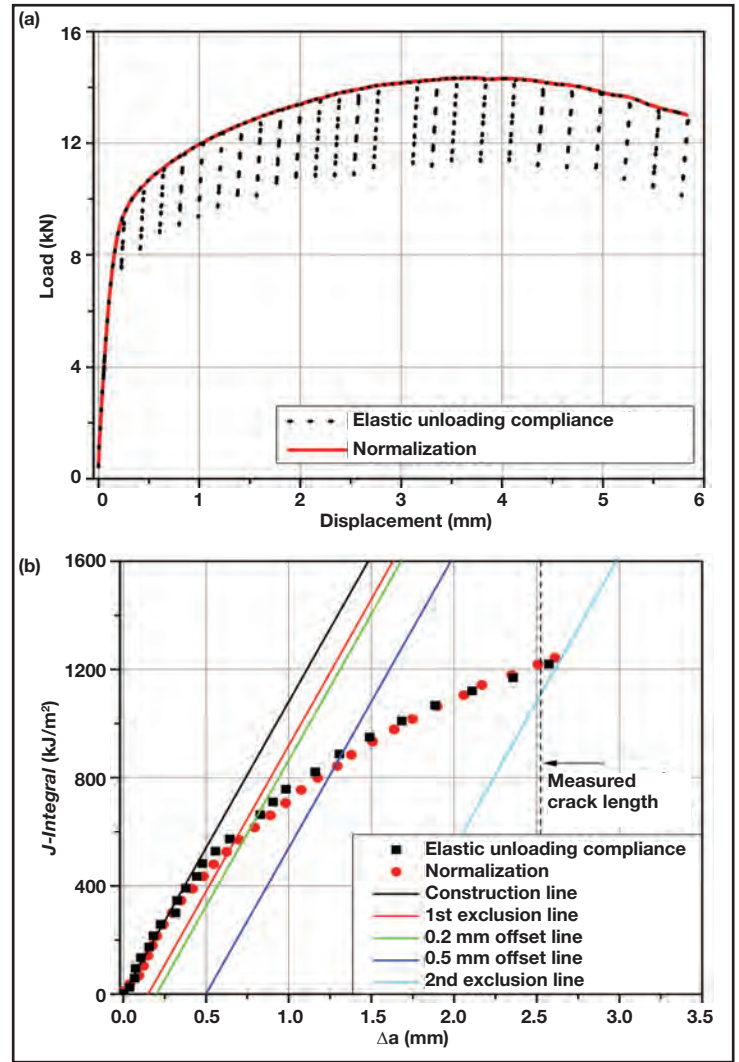
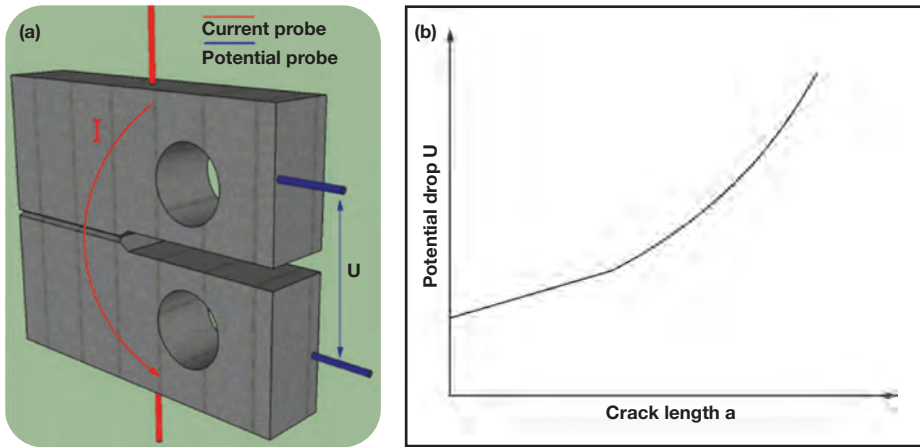

Fig. 6 — (a) EUC vs. normalization load-displacement record for the J-R curve test; (b) comparison of J-R curves derived by EUC and normalization.
Fig. 7 — Schematic for (a) direct current potential drop measurement and (b) crack-growth-induced increase in potential drop.
The *normalization* technique was initially developed by Herrera and Landes et al.^[2,3] and later studied by Joyce and Lee^[4,5]. In some cases, this method can be applied to determine a J-R curve directly from a load-displacement record taken together with initial and final crack size measurements from the specimen fracture surface. Because the compliance measurement is eliminated, the load-displacement curve in the normalization method does not require the unloading-reloading portion as in EUC—see Fig. 6(a)—greatly simplifying the test and reducing test time.
where a , b , c , and d are fitting constants. Afterwards, the normalized load is recalculated with an assumed crack size and compared with the normalized load from Eq. (4). Then the assumed crack size used for calculating the normalized load is adjusted until the deviation between the calculated normalized load and the normalized load from Eq. (4) is within the $\pm 0.1\%$ range. After repeating this procedure, all intermediate crack sizes are derived and the J-R curve is determined in the normalization method, which reveals an excellent agreement with the J-R curve from EUC. See Fig. 6(b).
quire the unloading compliance measurement, so the load-displacement test record is simplified and the same as the normalization method in Fig. 6(a). In addition, DCPD provides experimental real-time crack size measurements as in EUC. DCPD relies on passing a constant direct current through the specimen, then measuring the voltage generated across an area in the specimen. See Fig. 7(a). As the crack propagates in the specimen, less area is available for the passage of the constant current, resulting in an increase of the effective electrical resistance and potential measurement, i.e., the potential drop in Fig. 7(b). Thus, a correlation can be made between crack length and potential drop in DCPD. In order to convert the potential drop measurement to the crack size, Johnson's equation is usually applied^[11-12]: